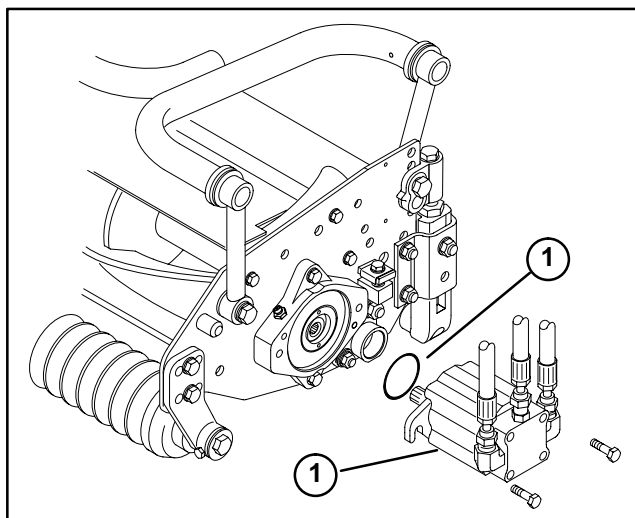

Figure 30
7. Mount the motor to the drive end of the cutting unit and secure with two capscrews provided (Fig. 30).